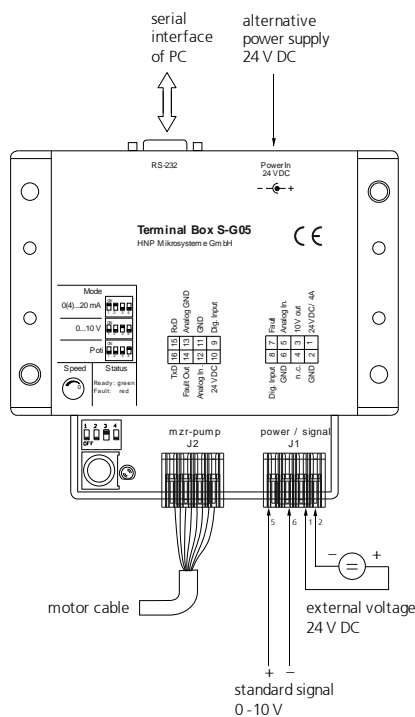

figure 13
4. Connect an external 0-10 V voltage supply to the terminal clamps »AnalogIn« and »GND« to the S-G05. (see figure 13)
4. Connect an external 0-10 V voltage supply to the terminal clamps »AnalogIn«, »10 V« and »GND« to the S-G05.(see figure 13)